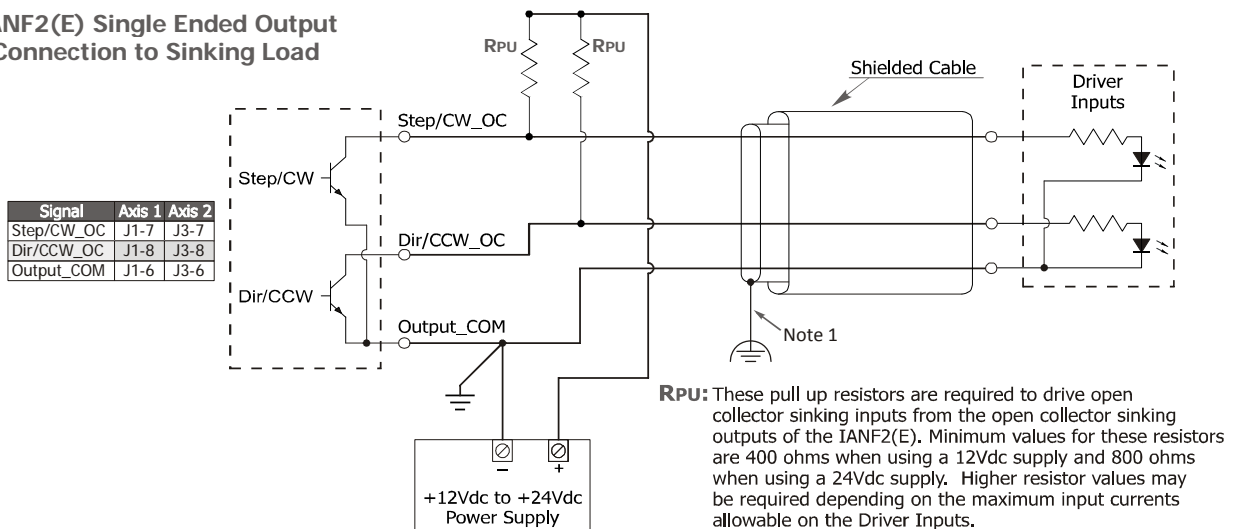

Figure T1.8 Open Collector Drive Wiring (Sinking Inputs)
All singled ended outputs in the IANF2(E) are open collector sinking. They share a single common pin that must be tied to the ground connection of the power supply powering the outputs. It is possible to wire the IANF2(E) outputs to open collector sinking inputs on a drive by using pull up resistors. This configuration will reverse the logic states of the outputs. An input on the drive will be normally on and turn off when the IANF2(E) output is in a logic "1" state. Figure T1.8 below shows how to wire the outputs to open collector sinking inputs on your drive.